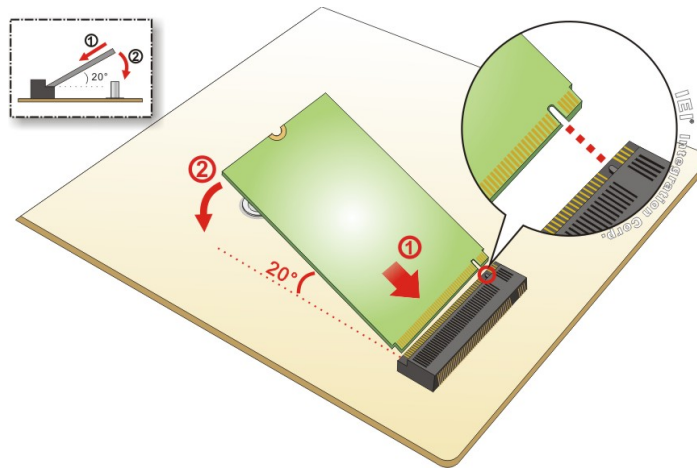

Figure 4-7: Inserting the M.2 Module into the Slot at an Angle
Step 2: Line up the notch on the module with the notch on the slot. Slide the M.2 module into the socket at an angle of about 20° (**Figure 4-7**).